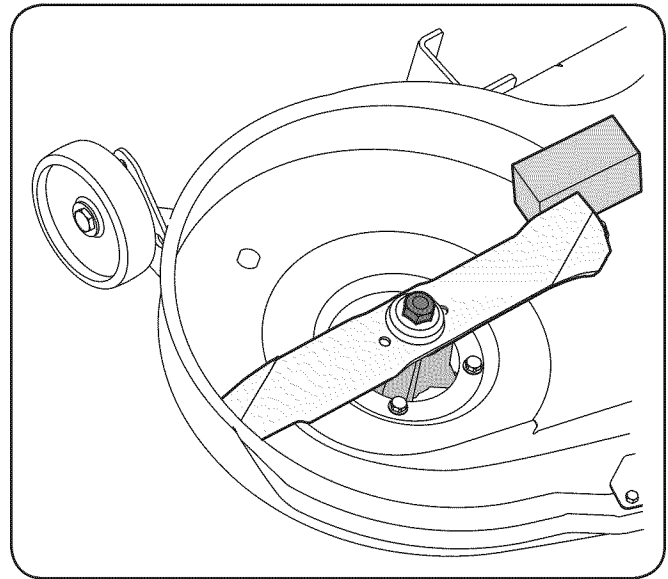

Figure 7-7
2. Place a block of wood between the center deck housing baffle and the cutting blade to act as a stabilizer. See Figure 7-7.
3. Remove the hex flange nut that secures the blade to the spindle assembly. See Figure 7-7.